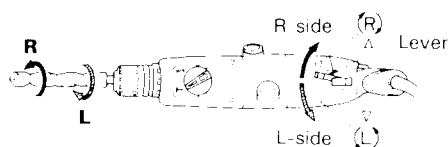

Fig. 3
7. Confirm the direction of bit rotation (Fig. 3)